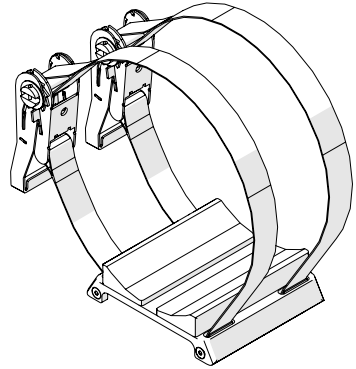

Fig. 44 - Mounting plate with ratchet straps
1. Using the ratchet straps provided, attach the source to the mounting plate (Fig. 44).